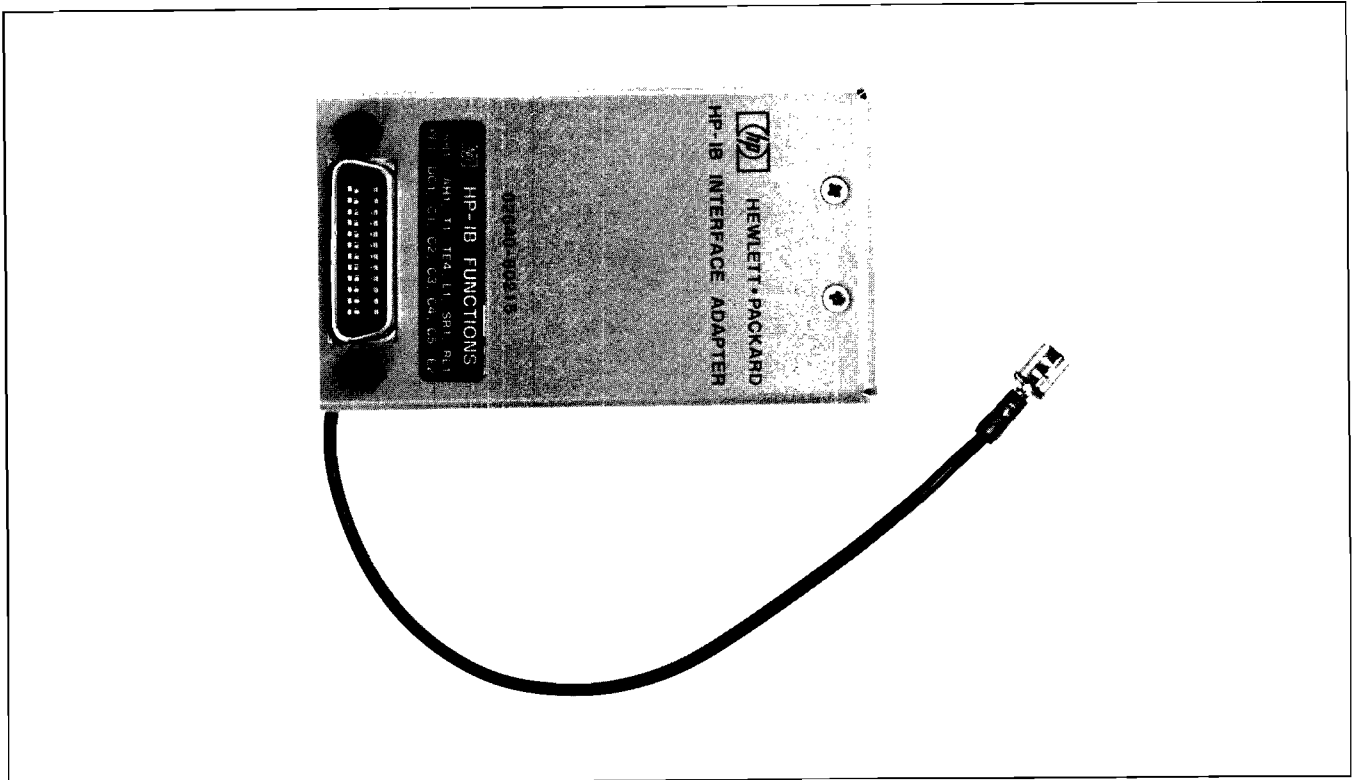

Figure 1-14. HP-IB Interface Adapter
3. HP-IB Interface Adapter, part no. 02640-60215 (figure 1-14). This item serves two purposes: First, it provides a means of connecting an HP-IB cable to the interface PCA. Second, it provides you with a means of increasing the maximum combined amount of interconnecting cable permitted in your HP-IB configuration.